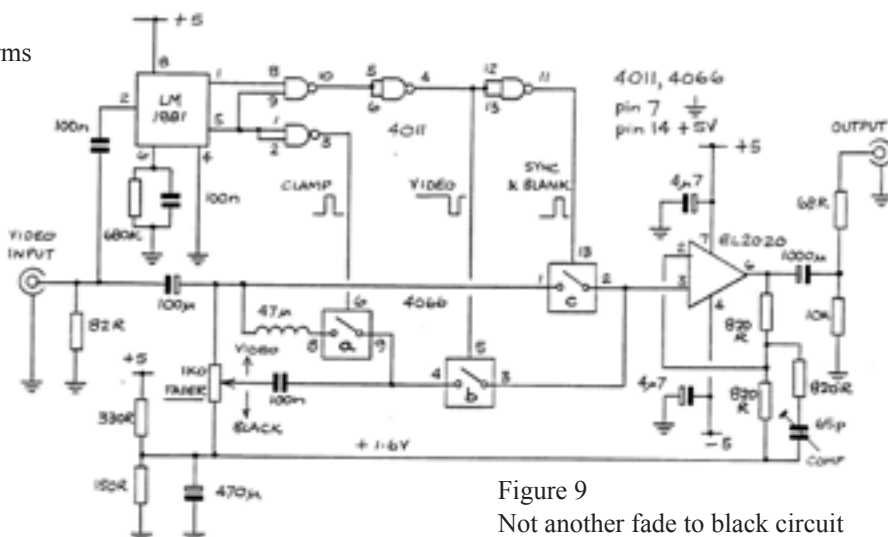

Figure 9
**Circuit Notebook No.61. Not another fade to black circuit (Fig.9.)**